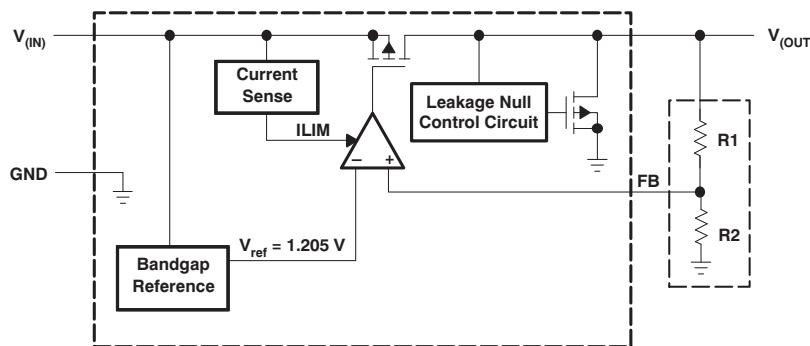

Figure 10. Functional Block Diagram—Adjustable Version
(1) Minimum $V_{\text{IN}} = V_{\text{OUT}} + V_{\text{DO}}$ or the value shown for *Input voltage* in this table, whichever is greater.
(2) See Figure 10. The TPS715 family employs a leakage null control circuit. This circuit is active only if output current is less than pass FET leakage current. The circuit is typically active when output load is less than $5 \mu\text{A}$, V_{IN} is greater than 18 V , and die temperature is greater than 100°C .